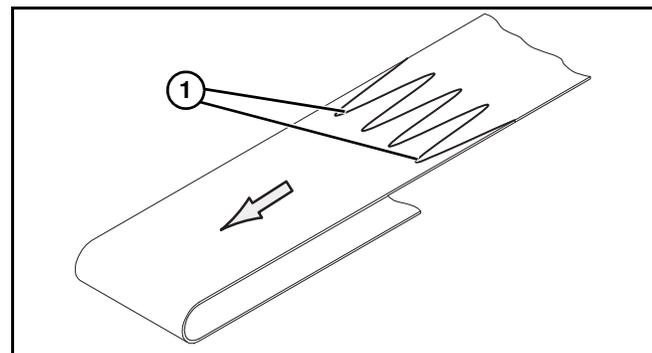

Figure 71
- Orient the conveyor belt so that the splice outer fingers (**Figure 71, item 1**) point in the direction of belt travel, indicated by the label (**Figure 70, item 1**).